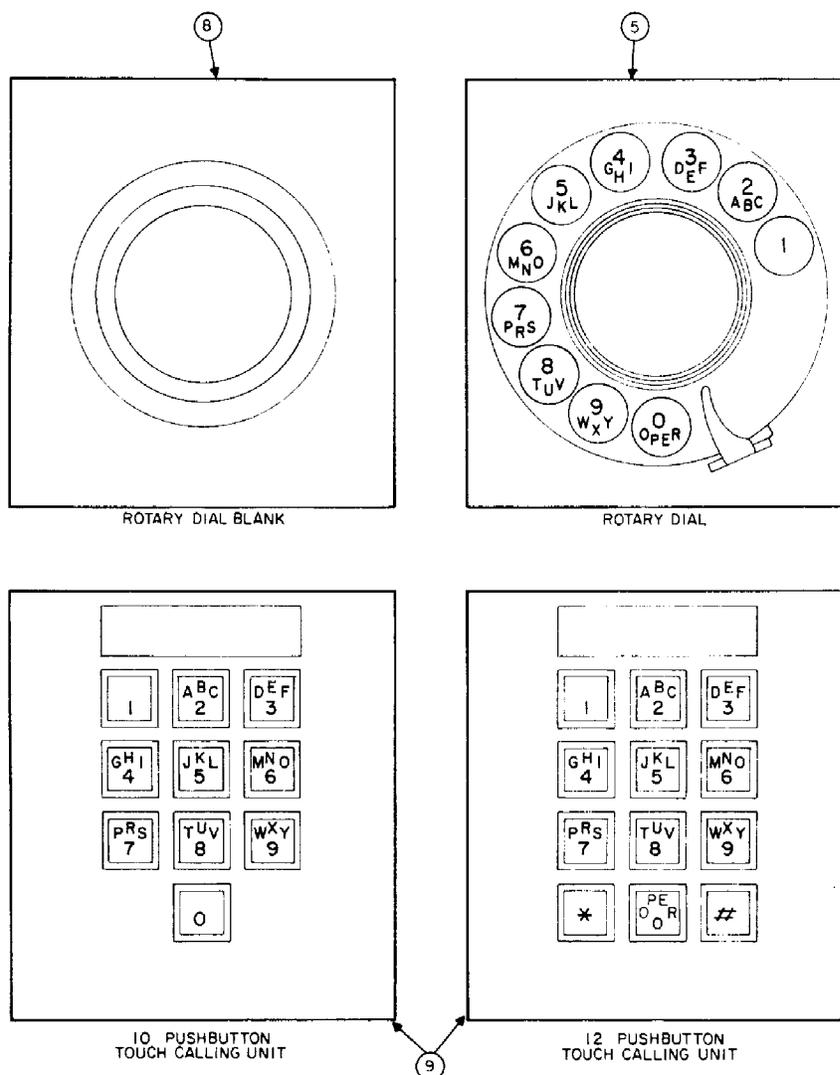

Figure 5. Rotary Dial and TCU Options.
- NOTES: 1. The item numbers in Table 3 refer to the item numbers shown in Figure 5.